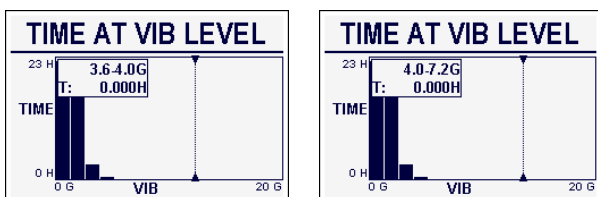

Figure 7.19: Vibrational scale increment change from 0.4 to 3.2 G
**NOTE:** The vibration histogram marker bin represents vibrational increments of 0.4 G up to the vibrational value of 4.0 G. After 4.0 G, the scale increment increases to 3.2 G. Refer to Figure 7.19, Vibrational scale increment change from 0.4 to 3.2 G for a visual clarification.